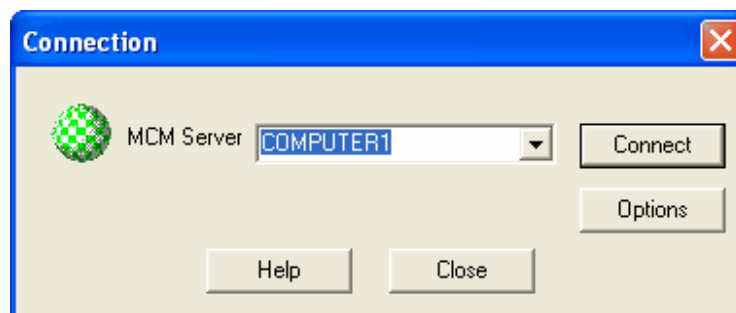

Figure 41: Connection Screen
4. Enter either the network machine name or IP address and click the **Connect** button in Figure 41.